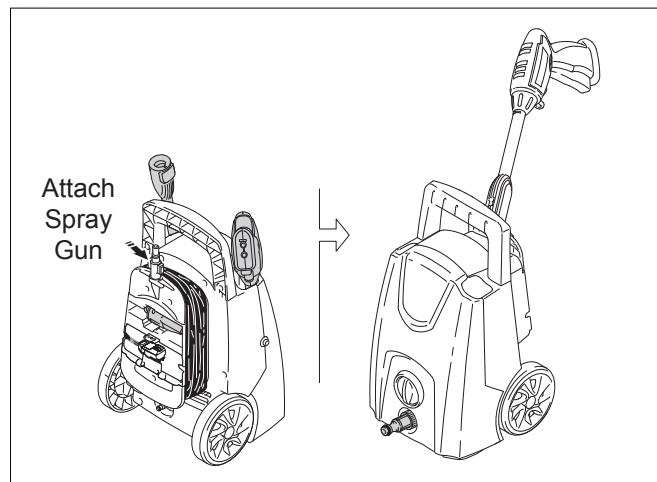

Fig. 26
- For easy handling, attach the spray gun to the quick connect fitting on the top cord holder on the back of the washer. **(Fig. 26)**